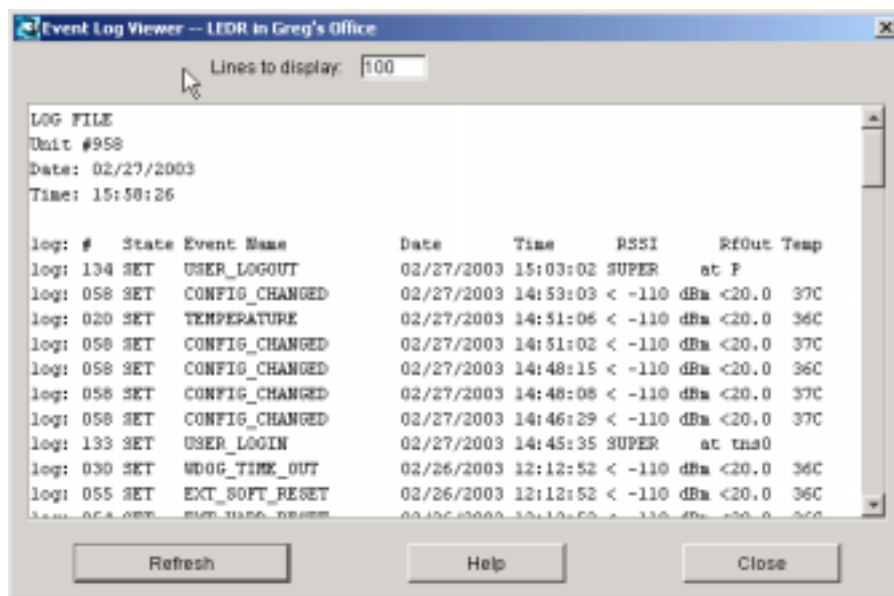

Figure 20. Sample Event Log Screen
- c. The Event Log Screen (Figure 20) displays a history of radio events, including user actions, alarms, logins, and re-boots.